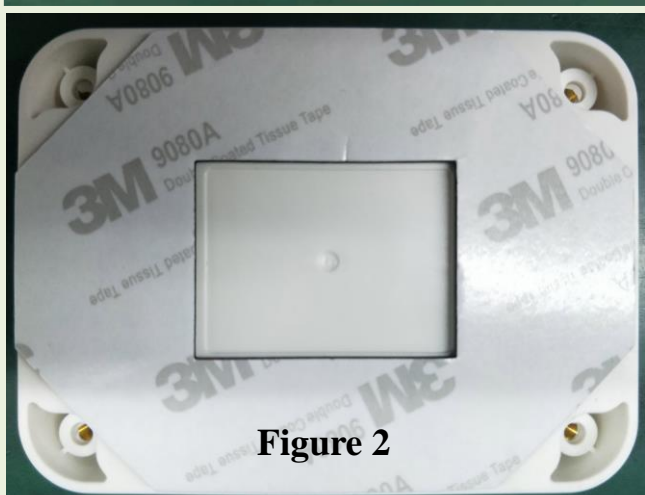

Figure 2
2. Tear off the backing paper on one side of the double-sided tape, and paste the double-sided tape on the back of the device (Figure 2 below).